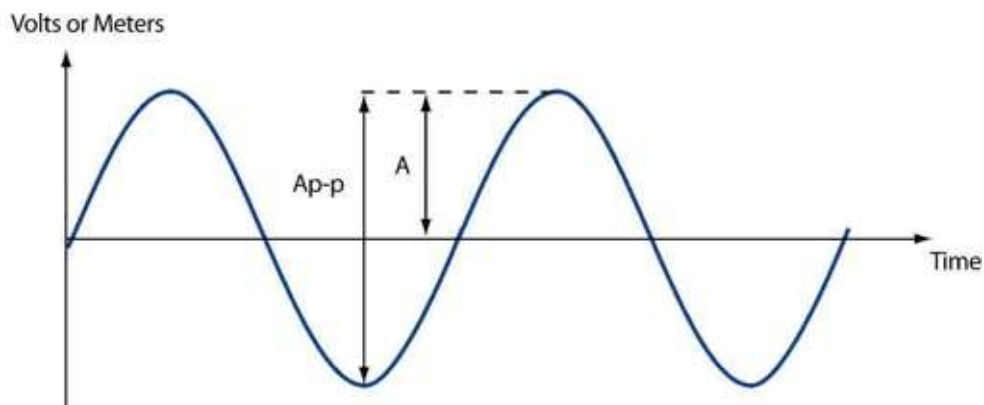

Figure 6.2 AmpDef. The amplitude, A , and peak-to-peak amplitude, A_{p-p} , for a sinusoidal signal
This is the size of the oscillating signal. There are a number of common definitions for this value. The amplitude (A) is compared to the peak-to-peak amplitude (A_{p-p}) as seen in Figure 6.2. For a signal symmetric about mean, as is the case for a sine wave, the amplitude is $\frac{1}{2}$ of the magnitude of the peak-to-peak amplitude.